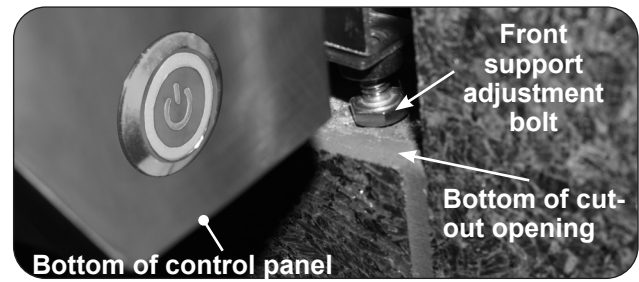

Fig. 28-1 Front support adjustment bolts
5. Rotate the front support adjustment bolts (up or down) until the pizza oven hanger rests flush on the countertop, AND, the adjustment bolts are touching the supporting structure found at the bottom of the cutout (lower support). Use a $\frac{7}{16}$ " open-end wrench as needed. See Fig. 28-1.